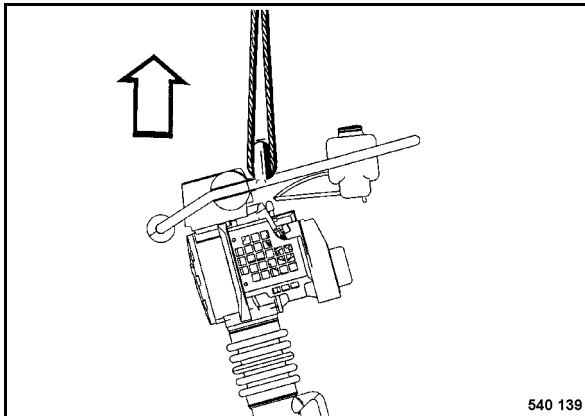

Fig. 28
- To load the tamper attach the lifting tackle only to the cross bar of the steering bow (Fig. 28).